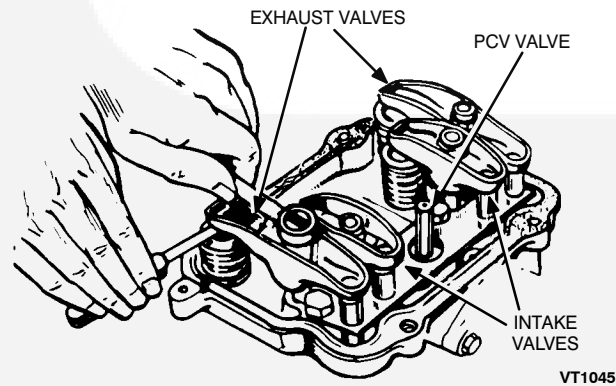

FIGURE 6-5. CHECK VALVE CLEARANCE
4. Using a feeler gauge, check the clearance between the rocker arm and the valve (see Figure 6-5). Increase or decrease the clearance until the proper